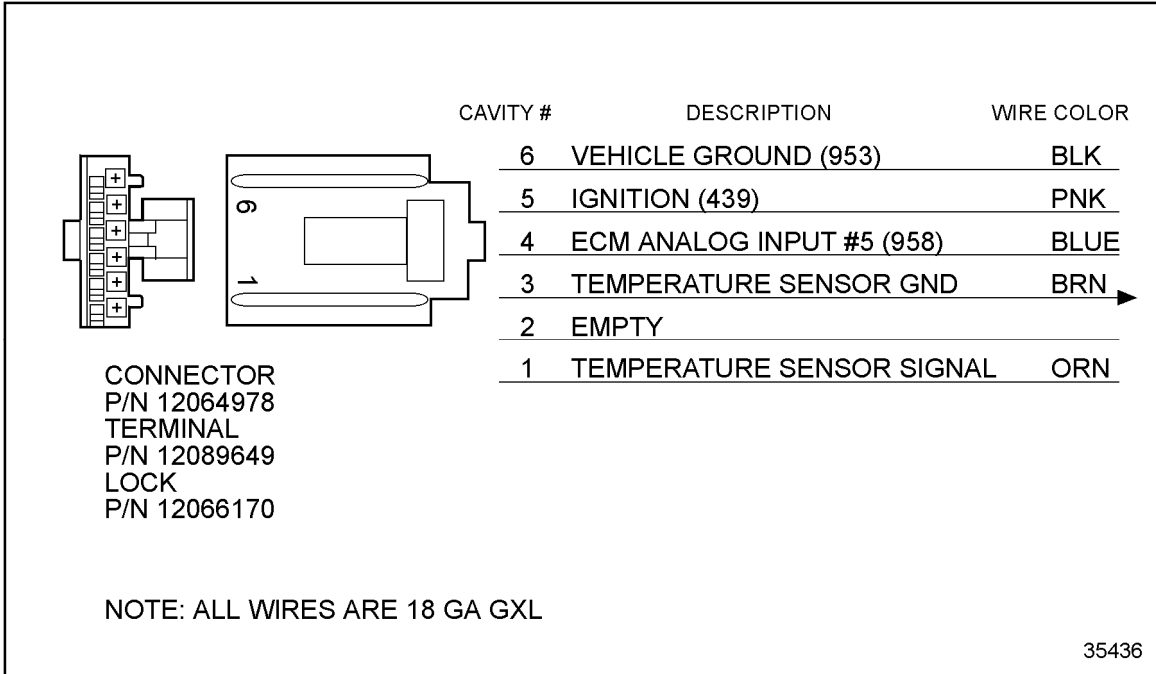

Figure 2 **Optimized Idle Thermostat Wiring Diagram**
6. Wire the thermostat (see Figure 2).